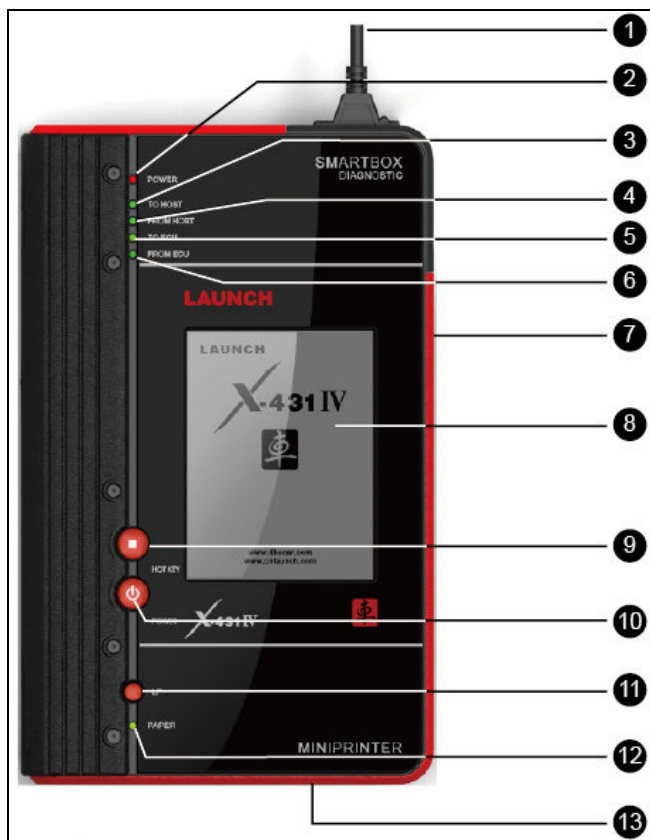

Figure 2-2 X-431IV structure view (Front)
Check and identify working states and defeat point of X-431IV by means of the 4 indicators on the SMARTBOX: There are 4 working state indicators on the SMARTBOX: ③, ④, ⑤ and ⑥ (see figure 2-2), their functions are described respectively as above. It's necessary to check and identify communications